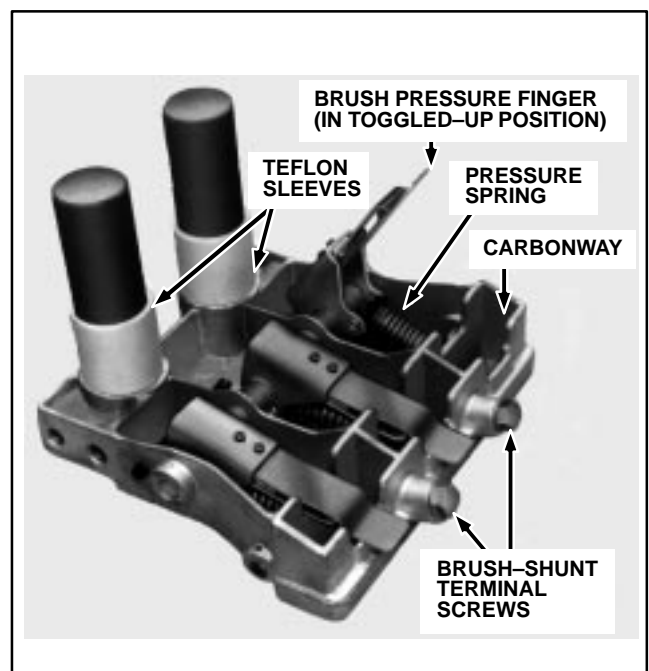

FIG. 5. BRUSH SPRING ARRANGEMENT. E-18963.
Brushholders (Fig. 5)
Use a clean, lintless cloth and wipe dirt and grease from the Teflon* brushholder sleeves, Fig. 5. If necessary, use a cleaner such as MEK (methyl ethyl ketone) to clean the sleeves. Inspect sleeves for cracks and thin
Lift the brush pressure fingers to the "toggled-up" position, Fig. 5, and check for free movement of the spring assembly.
2. Disconnect the brush shunt from the terminal screw, Fig. 5, located on the brushholder body.